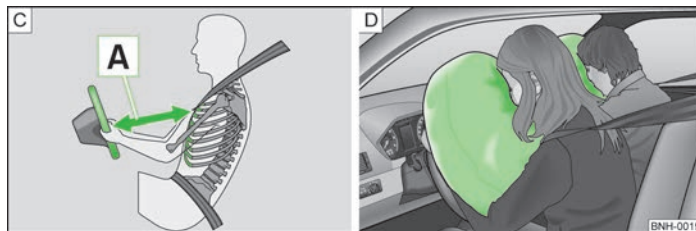

Fig. 103 Safe distance to steering wheel/inflated airbags.
If the airbags are deployed, the airbags are filled with a propellant gas and inflated in front of the driver and front passenger » Fig. 103 - [D]. The forward movement of the driver and of the front passenger is cushioned when they make contact with the fully inflated airbag and the risk of injury to head and chest is thus reduced.
- For the driver and front passenger, it is important to maintain a distance of at least 25 cm to the steering wheel or dashboard **A** » Fig. 103. Not maintaining this minimum distance will mean that the airbag system will not be able to properly protect you - hazard! The front seats and the head restraints must always also be correctly adjusted to match the body size of the occupant.